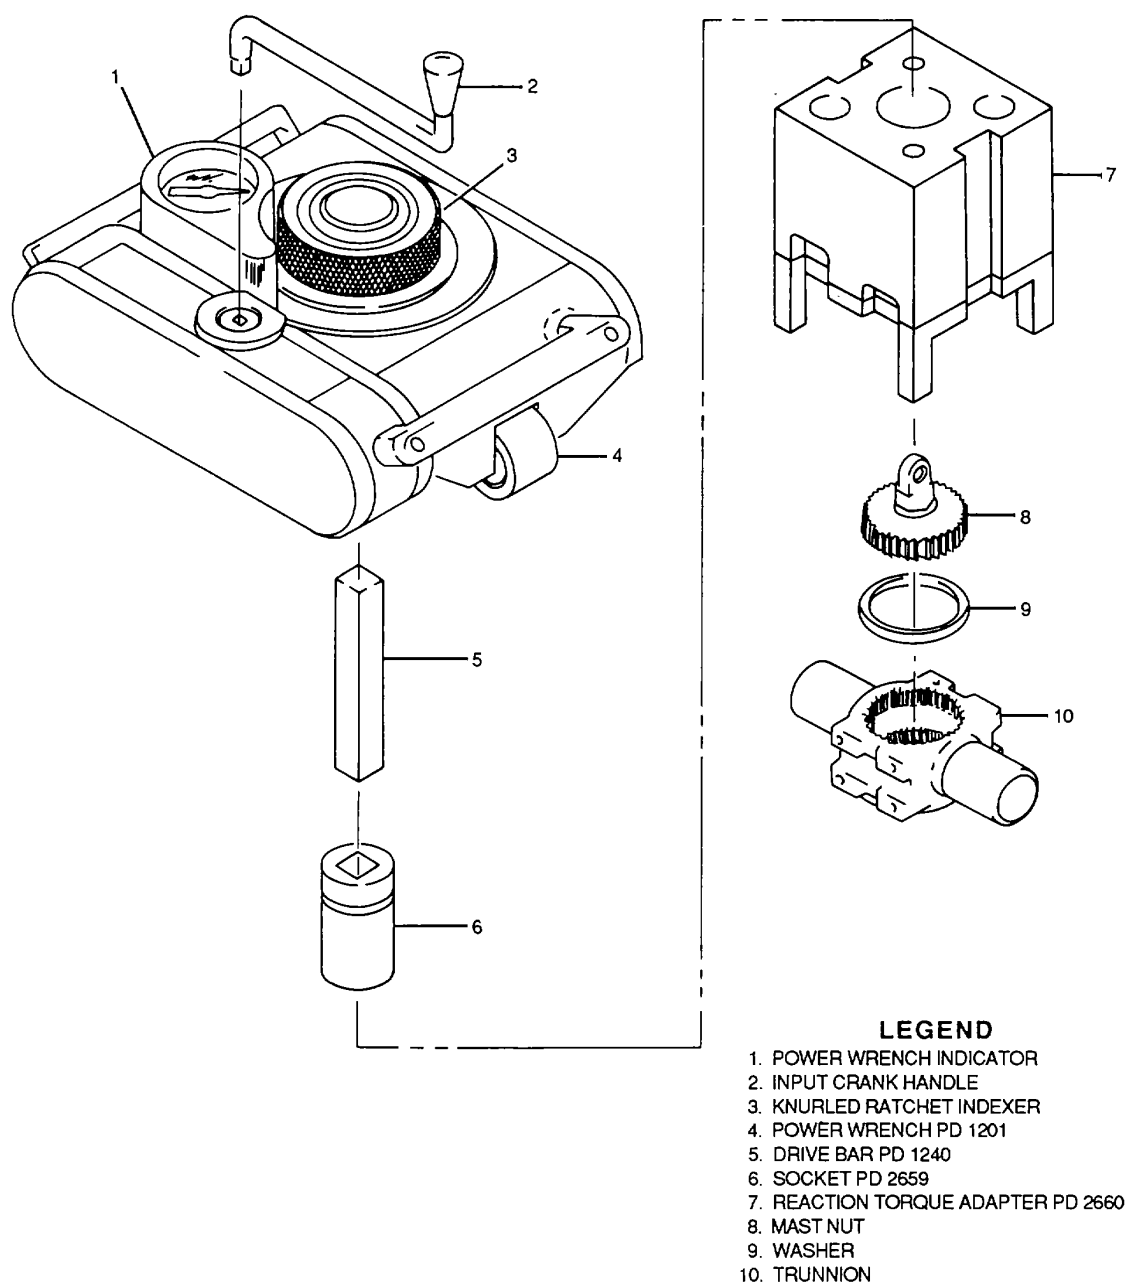

Figure 8-23. Torque Multiplier Power Wrench
**8-10. Torque Multiplier Power Wrench.** Utilizing a powerful gear train, the torque multiplier power wrench, shown in figure 8-23, is completely mechanical in its operation. This tool operates on the same principle as the general purpose torque multipliers described in paragraph 8-9. The wrench is operated by turning a small hand crank, but power tools (including air or electric drills, nut runners, etc.), may be used for speedier operation. A balanced features of the drive gearing prevents snap-back should the input crank be released.